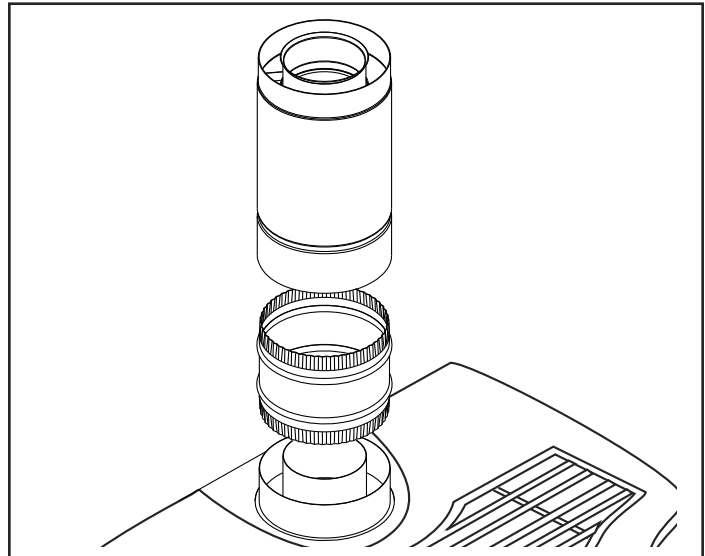

Figure 3.8 - Attach inner assembly to flue collar.
4. Place a 3/8" bead of millpack caulk around the 4" crimped end of the starter collar on the stove. Attach the SLP pipe to the adapter, and secure by aligning adapter and pipe seams, pressing down firmly until pipe stops, and twisting to lock into place. (Figure 3.8)